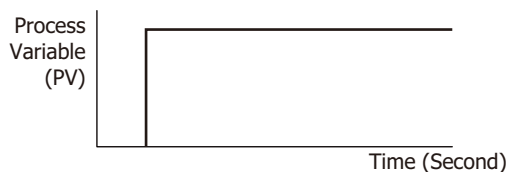

Figure 1. Process variable (PV) before PV filtering process
The PV filter function is a software filter to stabilize the process variable (PV) affected by fluctuating processes, such as the pressure or flow rate, by calculating first-order lag of the process variable (PV). Even if the process variable (PV) changes as shown in the Figure 1, when the PV filter time constant is configured, the process variable (PV) changes as shown in the Figure 2. After the PV filtering process, the process variable (PV) reaches 63% of the process variable (PV) in T seconds.